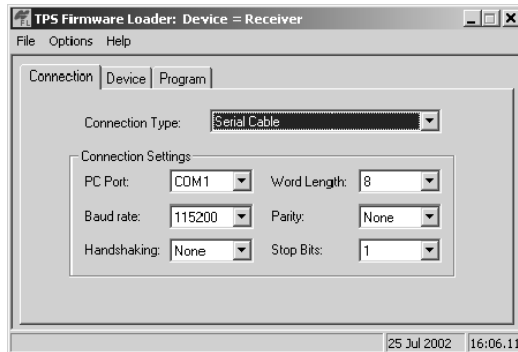

Figure 3-25. FLoader Main Screen
4. Start FLoader (Figure 3-25).
5. On the *Connection* tab, select the COM port on your computer that connects with your receiver and select its speed (usually 115200) (Figure 3-25).